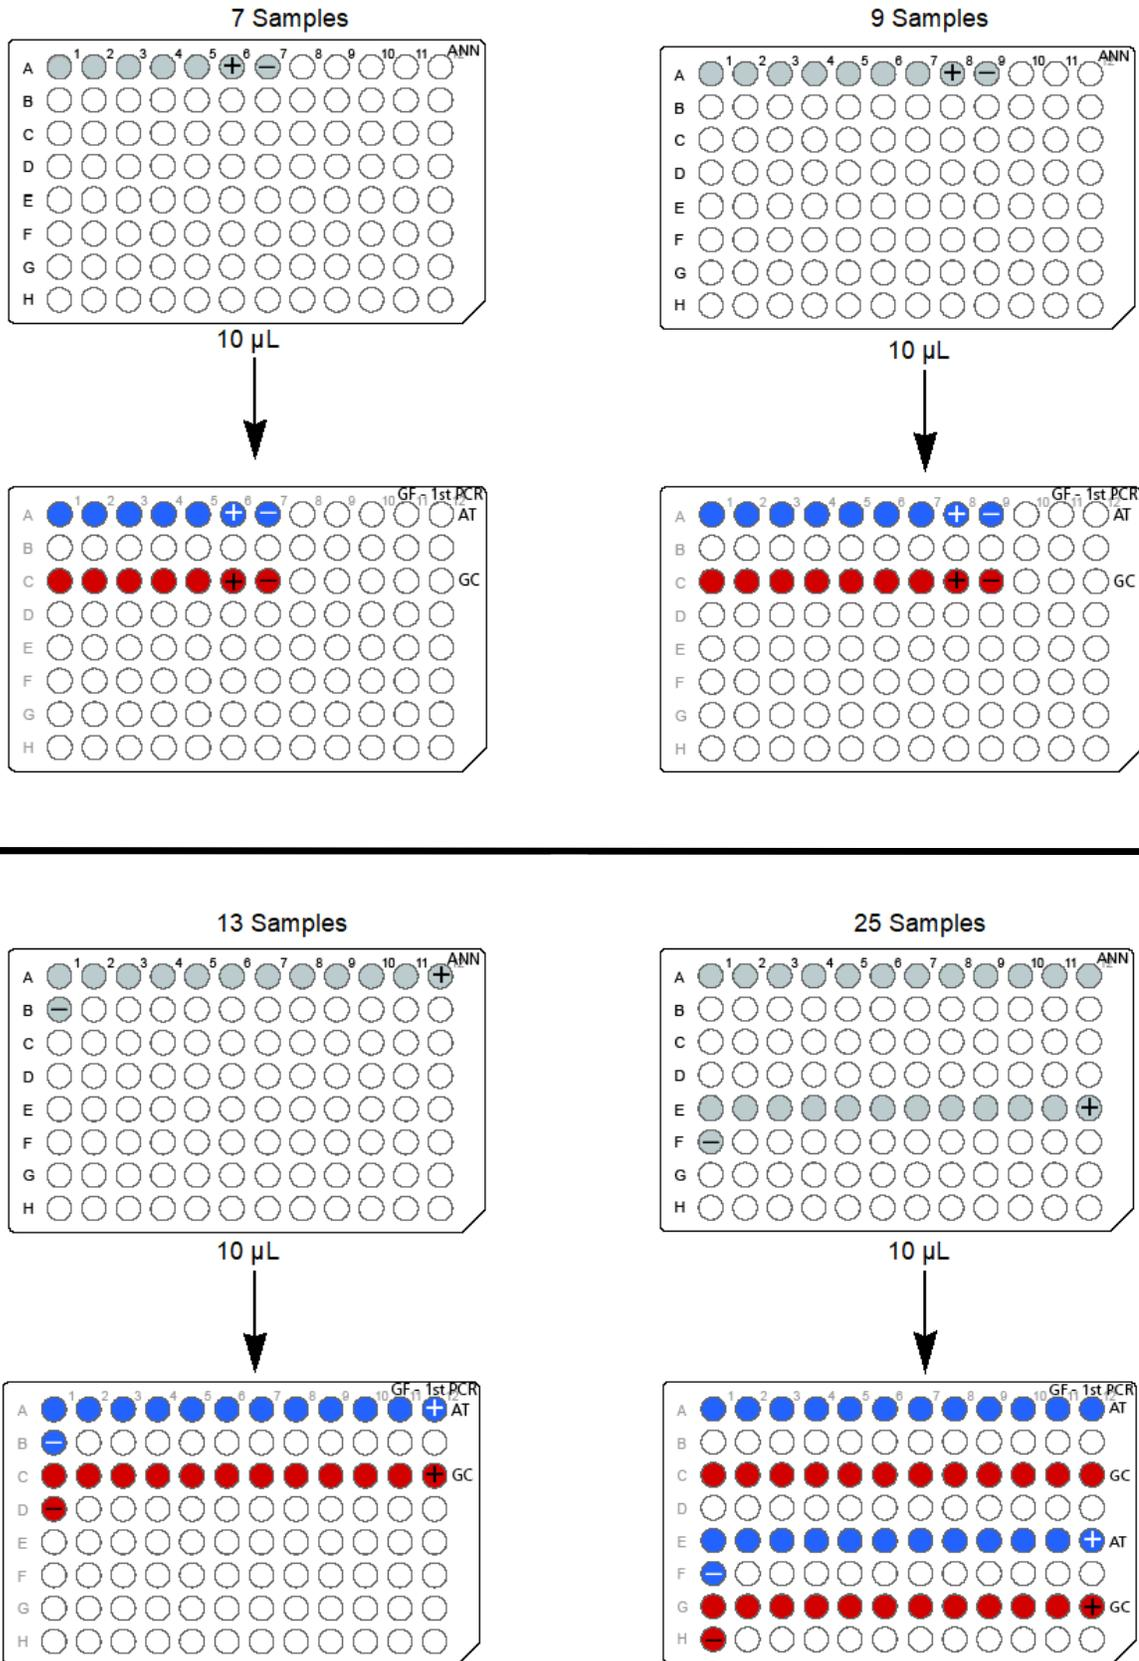

Figure 7 Perform the Channel Split Split the Anneal Product into the 1st PCR Plate.
5. Use a multichannel P20 pipette to transfer 10.0 µL of Anneal product from the **Anneal Plate** to the **1st PCR Plate**. (Figure 7.)